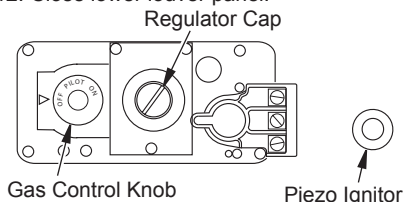

Figure 33 - Control Valve Millivolt
4. Push in gas control knob slightly and turn clockwise ↻ to OFF (see Figure 33).
5. Wait five (5) minutes to clear out any gas. Then smell for gas, including near